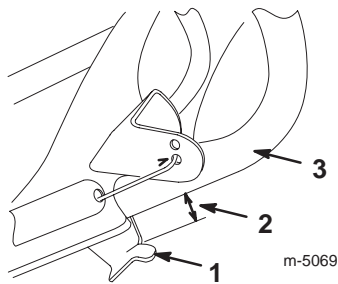
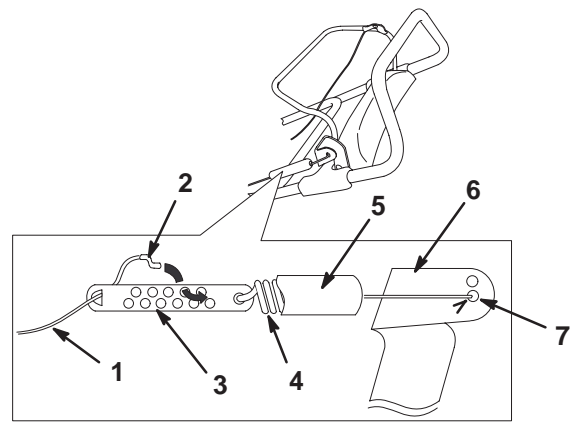

Figure 9
Figure 10
3. Ensure that a 1/8 to 1/4 in. (3 to 6 mm) gap exists between the control bar bracket and the handle as shown in Figure 9.
1. Unhook the spring end from the hole in the center of the control bar bracket as shown in Figure 10.
3. Unhook the Z-fitting from the cable adjuster (Fig. 10), and position it in a different hole on the adjuster to obtain a gap of 1/8 to 1/4 inch (3 to 6 mm) between the control bar bracket and the handle (Fig. 9).
5. Hook the spring into the hole in the center of the control bar bracket as shown in Figure 10.
Note: After extended use, the drive belt may wear and lose its proper belt tension. Improper belt tension causes the belt to slip and decreases the performance under a heavy load. Belt slippage may occur after 2 or 3 seasons of normal usage (10 to 15 operating hours). If the drive belt slips (continuously squeals) under a heavy load, increase the belt tension by positioning the spring end in the other hole in the control bar bracket as shown in Figure 10. Adjust the gap between the control bar bracket and the handle to 1/8 to 1/4 in. (3 to 6 mm).